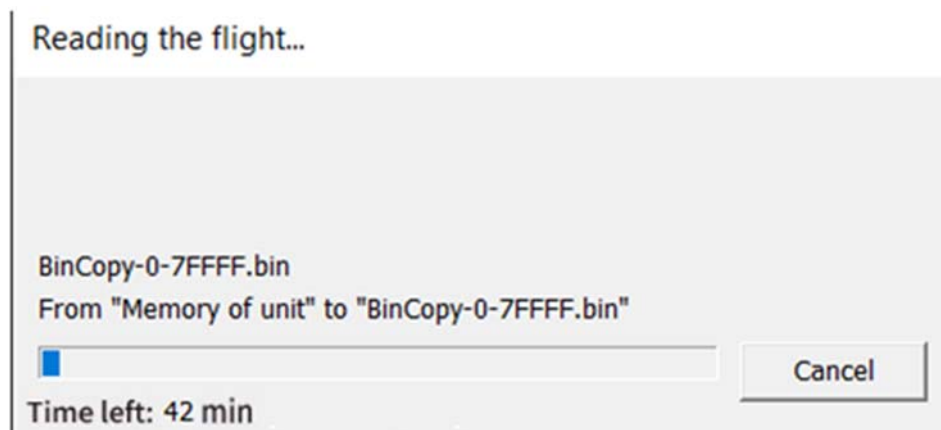

Figure 20 - The process of reading a binary copy
7.3 Click the “OK” button. Select a folder to save this file and enter the name of this file, and then click the "Save" button. A file with the \*.bin extension will be generated and the process of reading the binary copy shown in Figure 20 will go.